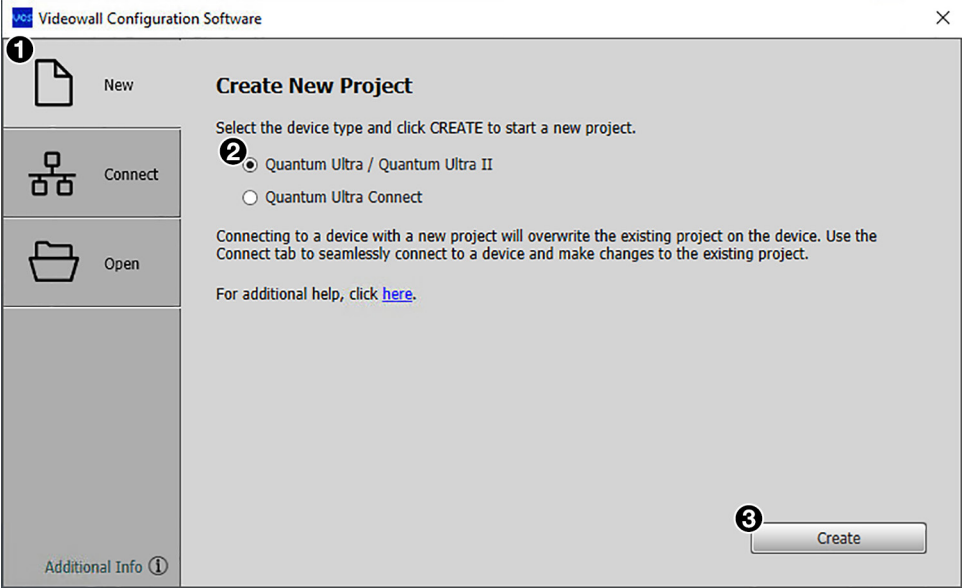
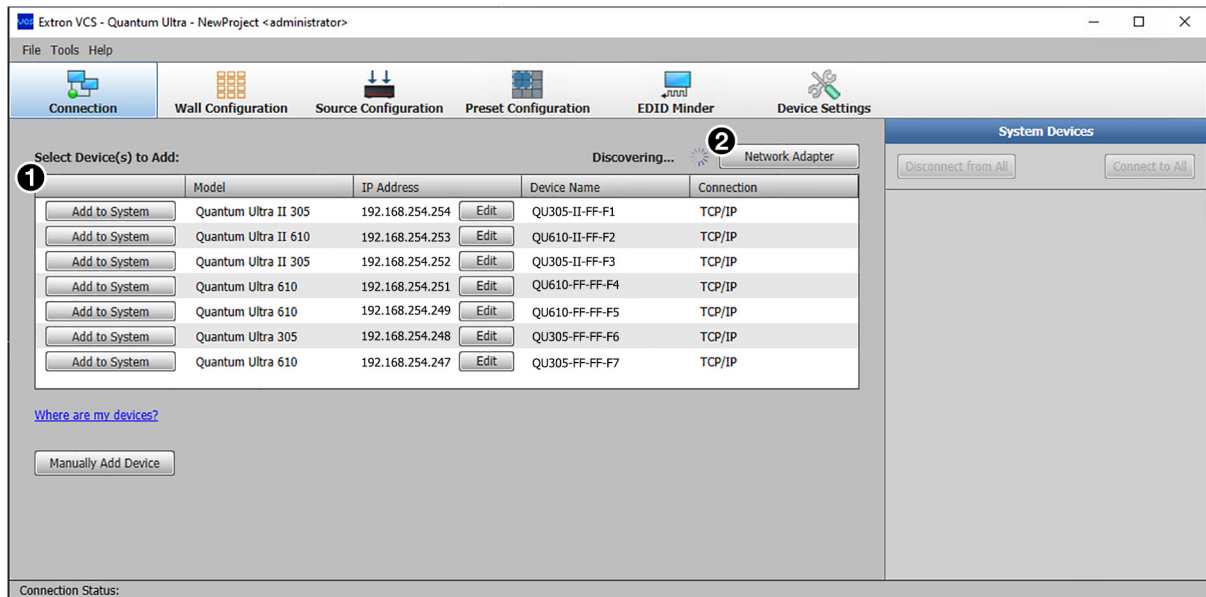

Figure 70. VCS New Project Screen
Figure 71. Connection Screen
1. Open VCS on your PC either by double-clicking the **VCS** icon (shown at right) if one was placed on your desktop during installation, or by clicking **Start > All Programs > Extron Electronics> Videowall Configuration Software**. (This opening process may vary with the operating system.) The **Start** screen opens, displaying the **Connect to Device** window, **Discover** tab (see figure 70).
2. Select the **New** side tab (see figure 70, ❶) to open the Create New Project screen.
4. Click the **Create** button (see figure 70, ③ on the previous page). VCS searches for devices that are connected to the network and are the type of device selected in step 3. The **Connection** screen displays a list of detected Quantum Ultra Series devices (see figure 71, ①).
If you added this device manually, click the **Device Settings** button (shown at right) on the taskbar (see figure 71 on page 85). On the **Device Details** screen, click the **Communication Settings** button (see figure 77, ❶) to display the Communication Settings dialog box.